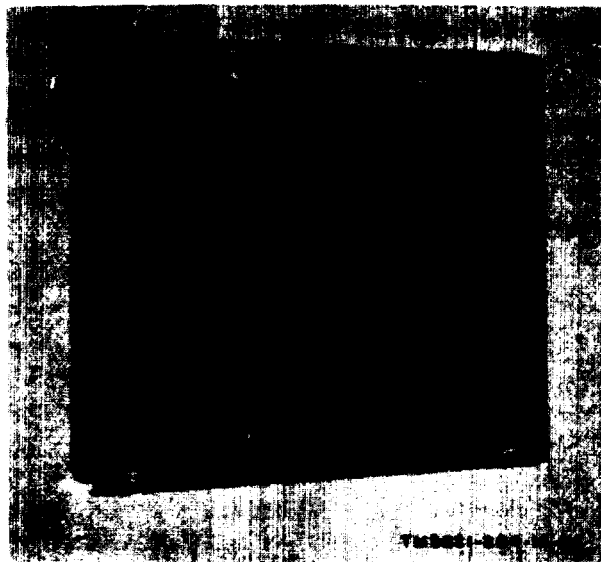

Figure 10. Terminal Box J-562/ AR.
b. Terminal Box J-562/AR (fig. 10) or equivalent is required for interconnecting the components of the fm liaison set.
- (1) Electrical Cord Assembly CX-2555/U with a separately installed transmit-receive switch, or Electrical Cord Assembly CX-2556/U with a transmit-receive switch, as part of the cable assembly.
- (2) Cables from the HOME switch on the switch panel to Keyer KY-149 (*) /AR and the terminal box if Antenna Group AN/ARA-31 is installed.
(3) Cable RG-58C/U for connection between the fm receiver-transmitter and Keyer KY-149 (*) /AR, coupler and Keyer KY-149/AR, and homing antennas and Keyer KY-149(*) /AR if Antenna Group AN/ARA-31 is installed.